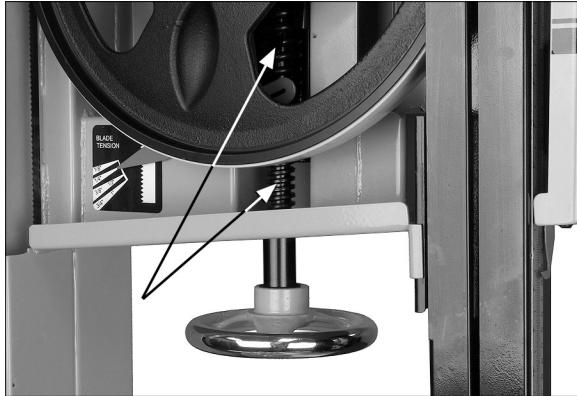

Figure 45
3. Grease blade tension screw (Figure 45).